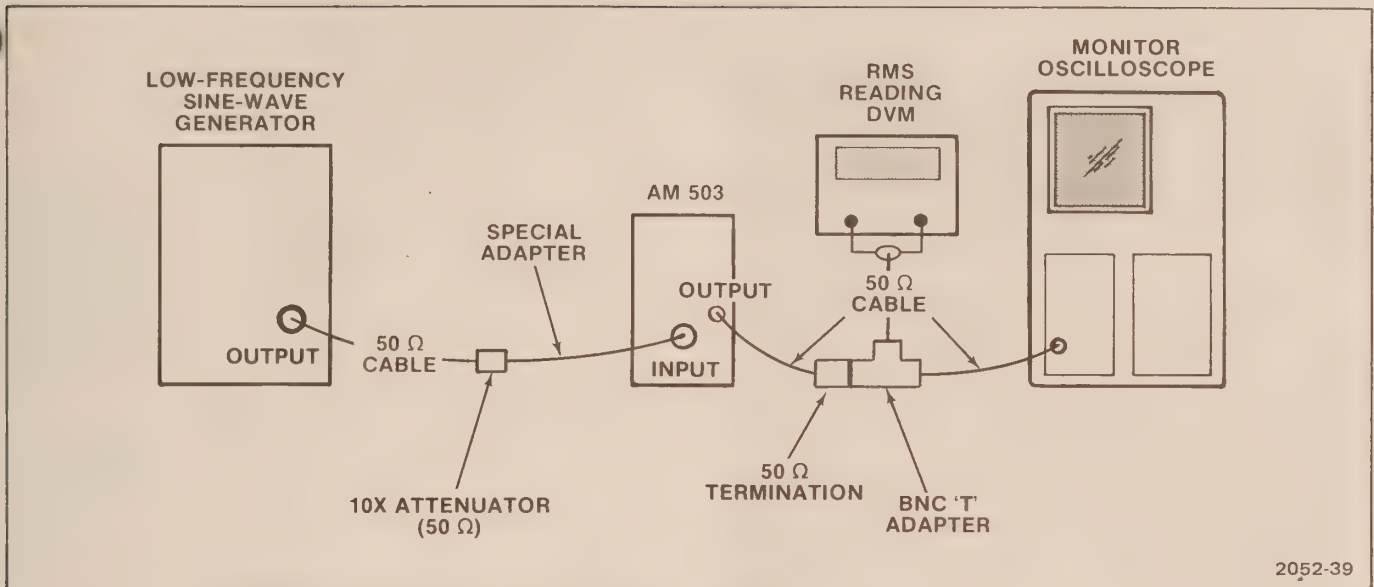

Fig. 2-1. Test setup for AC Dynamic Range Check.
a. See Fig. 2-1 for test setup.